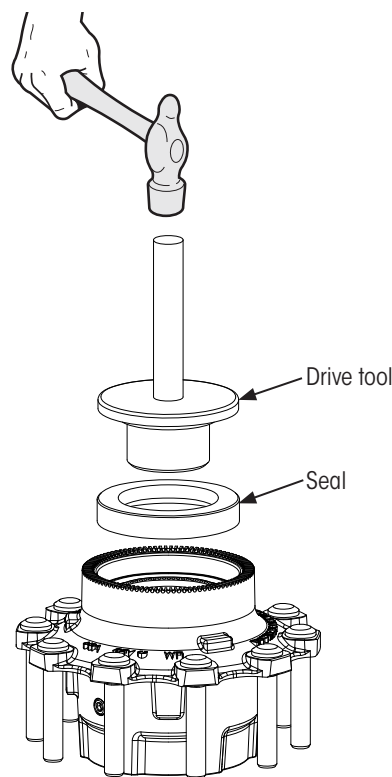

Figure 9: Hub-mounted seal installation
NOTE: A hub seal driver (Figure 9) is recommended and can be obtained from seal manufacturer.
8. **Place** seal onto the drive tool (Figure 9) for installation into the hub according to seal manufacturer's instructions.